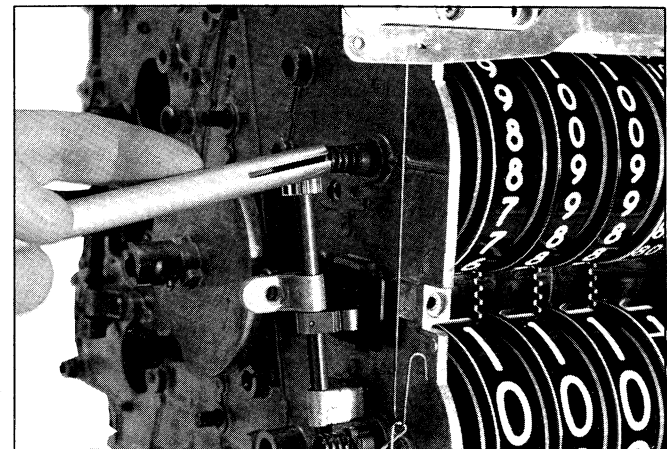
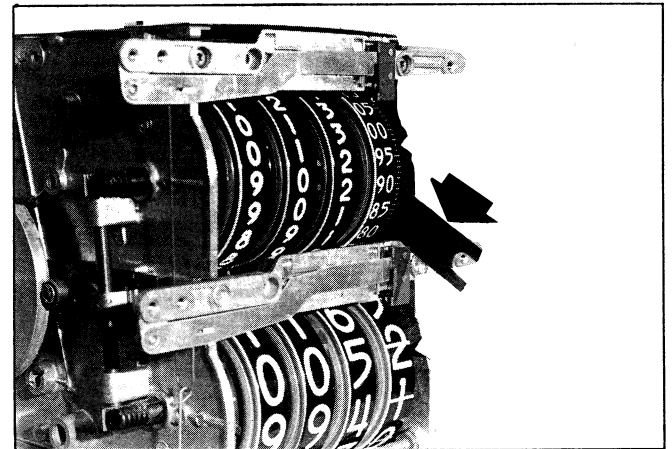
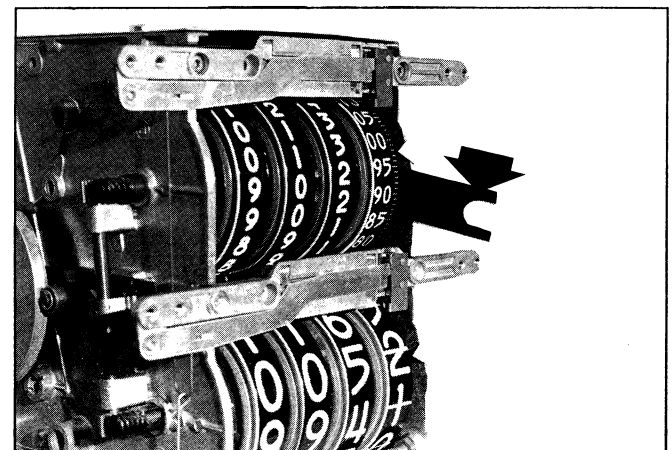

Figure 16. Placing open slotted end of long dummy shaft over grooved end of wheel shaft.
Figure 29. 0.015 inch (0.38 mm) feeler gauge in right side of wheel bank.
Figure 30. 0.022 inch (0.56 mm) feeler gauge in right side of wheel bank.
- d. Place **open slotted end** of long dummy shaft over grooved end of wheel on **rocker shaft side** of computer. Be certain slot in open end of long dummy shaft is aligned with slot in wheel shaft. Gently push wheel shaft out of computer, Figure 16 through 19.
- e. After insertion of adequate washers, check end-play with double end feeler gauge 0.015 inch (0.38 mm) to 0.022 inch (0.56 mm). Feeler gauge is inserted between 0.015 inch (0.38 mm) washer and **right** frame. If end-play is correct, 0.015 inch (0.38 mm) end should be free (drop), Figure 29, and 0.022 inch (0.56 mm) end should remain held (horizontal), Figure 30.
- g. After wheel shaft is assembled to computer, check wheel end-play again using double end feeler gauge, Figures 29 and 30. If wheel end-play is correct, proceed with the rocker shaft assembly. If wheel end-play is not correct, remove wheel shaft, Paragraph c.1.d, Figures 16 through 19, using long dummy shaft and add or remove washers at left side of computer. Install wheel shaft and check end-play again. If necessary, repeat above process until correct end-play is obtained.